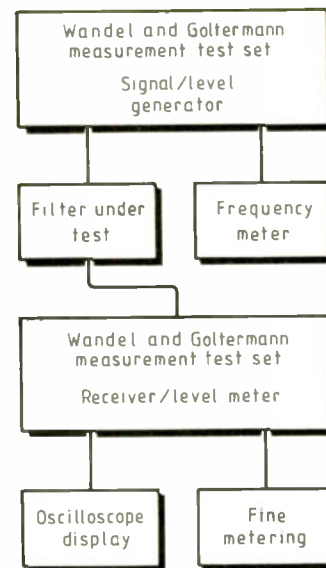

Fig.6. Measurement set-up using Wandel and Goltermann WM50.
versus frequency response, was measured using a Wandel and Goltermann test set with the filter inserted as the device under test (Fig. 6). The attenuation was measured at the six selected frequencies of 5.68, 6.39, 6.52, 7.32, 10.43 and 12.11 MHz. The attenuation values at each frequency were keyed into a program run on an IBM PC AT(E) microcomputer which implemented the Antreich *et al* algorithm². The output was the number of turns adjustment required by the components.